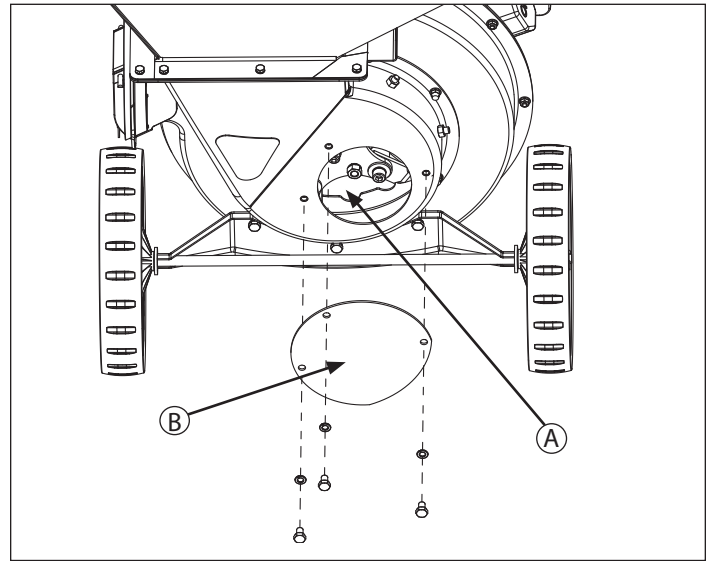

FIGURE 9- Inspect / Rotate Shredding Hammers
2. Remove the small circular access panel (B) from the back of the shredder housing. **SEE FIGURE 9**
3. Inspect the cutting edges of the triangular hammers (A) and J-hammers (A). **SEE FIGURES 9 AND 10**